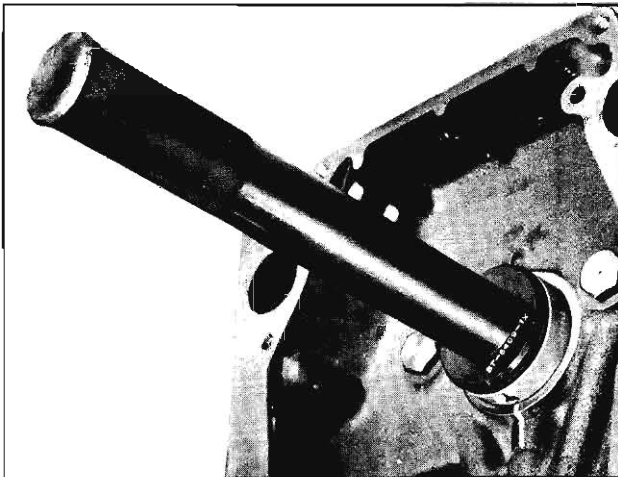

Fig. 3-447 Installing No. 1 Cam Bearing
5. Install Tool BT-6409-5 on Handle J-8092 and place #1 bearing on installer. (The pilot is not used to install #1 bearing). Drive bearing in until white line on Installer BT-6409-5 is flush with front face of block. (Fig. 3-447)